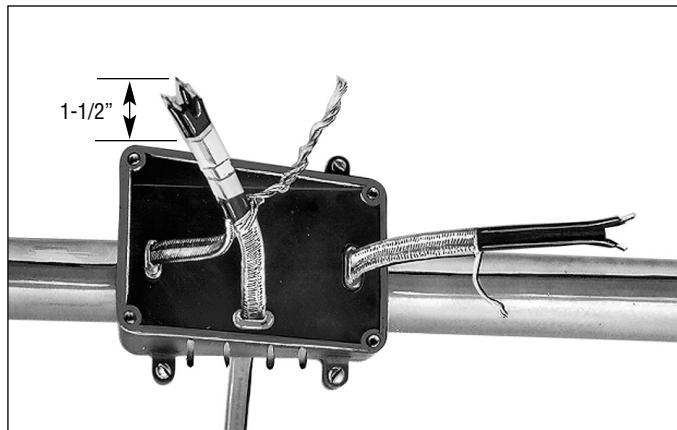

Figure 11
Align and tape together two (2) cables 1-1/2 inches from the end. Twist the corresponding conductors (and braid pigtales if present) together. See Figure 11.